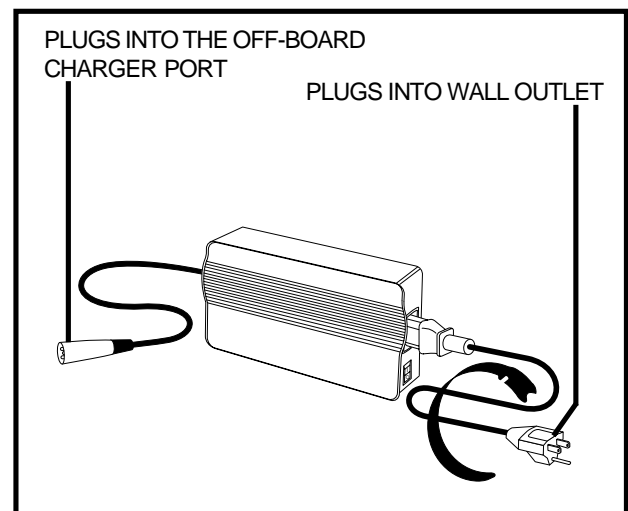

Figure 12A. Off-Board Charger
4. Plug the 3-pin charger power cord into the off-board charger port. See figure 12A.